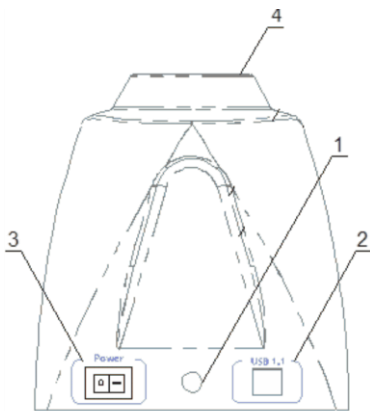

Fig. 1 Rear panel
- Connect the external power supply unit to the socket (fig. 1/1) on the rear side of the unit;
- Connect the USB data cable to the unit (Fig. 1/2) and to the personal computer;
- Insert the falcon into the socket (fig. 1/4);
5.1. Connect external power supply unit to electric circuit (fig. 1/1).
5.2. Turn on the unit by pressing the power switch on the rear panel (fig. 1/3).
5.3. Insert the tube into the socket (fig. 1/4).
5.6. After finishing the operation, switch OFF the unit with the Power switch (fig. 1/3).
5.7. Disconnect external power supply unit from electric circuit (fig. 1/1).